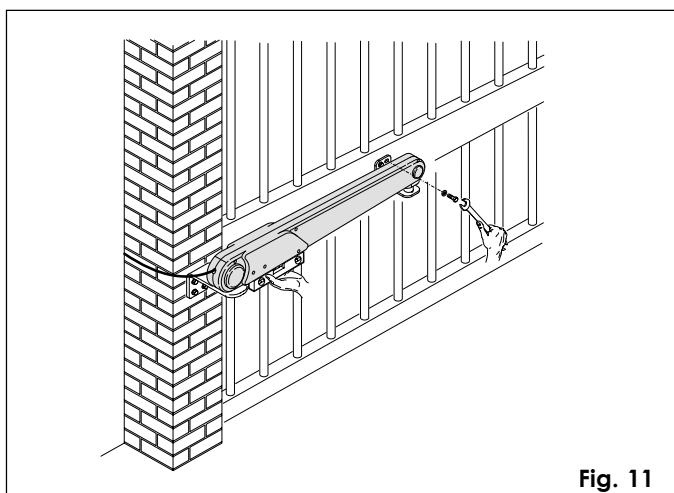

Fig. 11
- Find the securing position of the front fitting on the leaf; make sure that the operator and fitting are perfectly horizontal (fig.11).